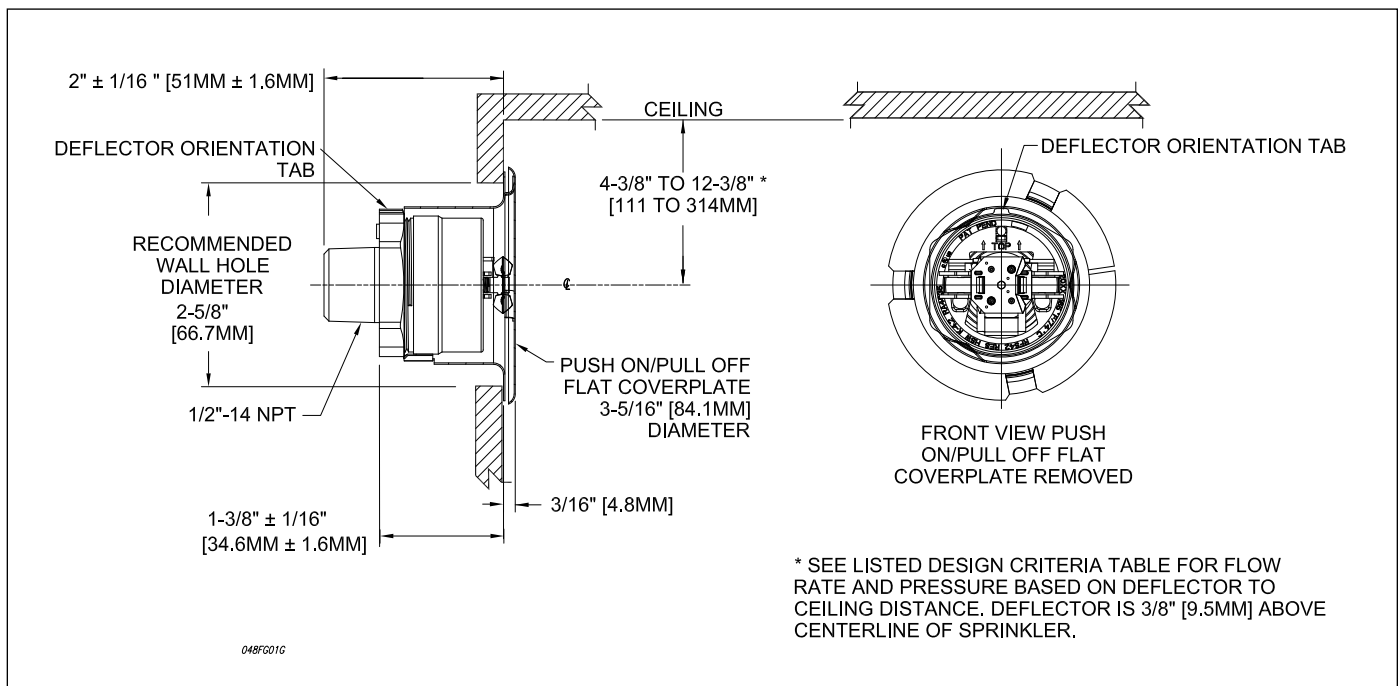

Fig. 1
Do not remove the factory installed plastic protective cap since it is sized to fit inside the G6 wrench. Note that the sprinkler can only mate when the sprinkler's deflector orientation tab (Fig. 1) is aligned with wrench's key-way. The G6 wrench is provided with bubble level pad and TOP marking, to allow the proper orientation of the horizontal sidewall deflector. Final leveling can be done after leak proof joint is obtained with a minimum to maximum torque of 8 to 18 ft-lbs (11 to 24 N·m). Leave the protective cap on to protect the sprinkler while the wall is plastered, wallpapered or painted. The protective cap must be removed and the listed cover plate installed prior to the sprinkler system being placed in service. A 25/8" (67 mm) diameter hole must be cut in the wall for the sprinkler assembly to extend through.
4. The sprinkler fitting shall be installed so that the rear of the sprinkler is 21/16" +/- 11/16" from the finished surface of the wall. Verify wall assembly dimensions prior to installation to ensure that the cover plate attaches to the sprinkler and seats against the finished wall surface (Fig. 1).